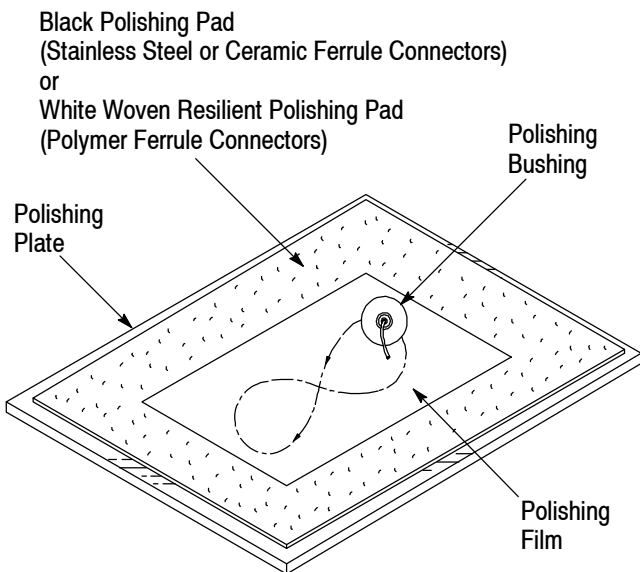

Figure 18
4. For polymer ferrule connectors, remove the adhesive backing from the white woven resilient polishing pad, then place the pad on the polishing plate. See Figure 18.
- For the stainless steel and ceramic ferrule connectors, remove the adhesive backing from the black polishing pad, then place the pad on the polishing plate. See Figure 18.
7. *Gently* insert the connector into the polishing bushing, and move the bushing in a figure-8 pattern, supporting the weight of the connector for the first three figure-8 patterns to prevent the fiber from breaking or scoring the film. See Figure 18.